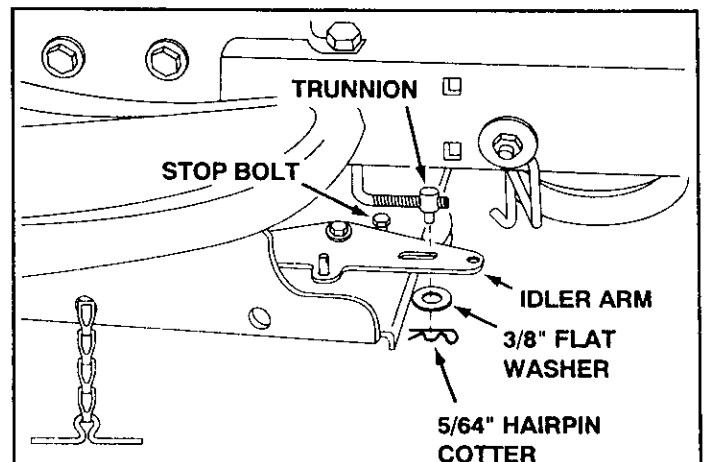

FIGURE 13 RIGHT SIDE VIEW
- Pivot the upper idler arm so that it rests against the stop bolt and is pointing toward the front as shown in figure 13. Screw the trunnion along the threads of the engagement rod until it is aligned at the front end of the idler arm slot. Attach the trunnion to the slot using the 3/8" flat washer and a 5/64" hairpin cotter. See figure 13.